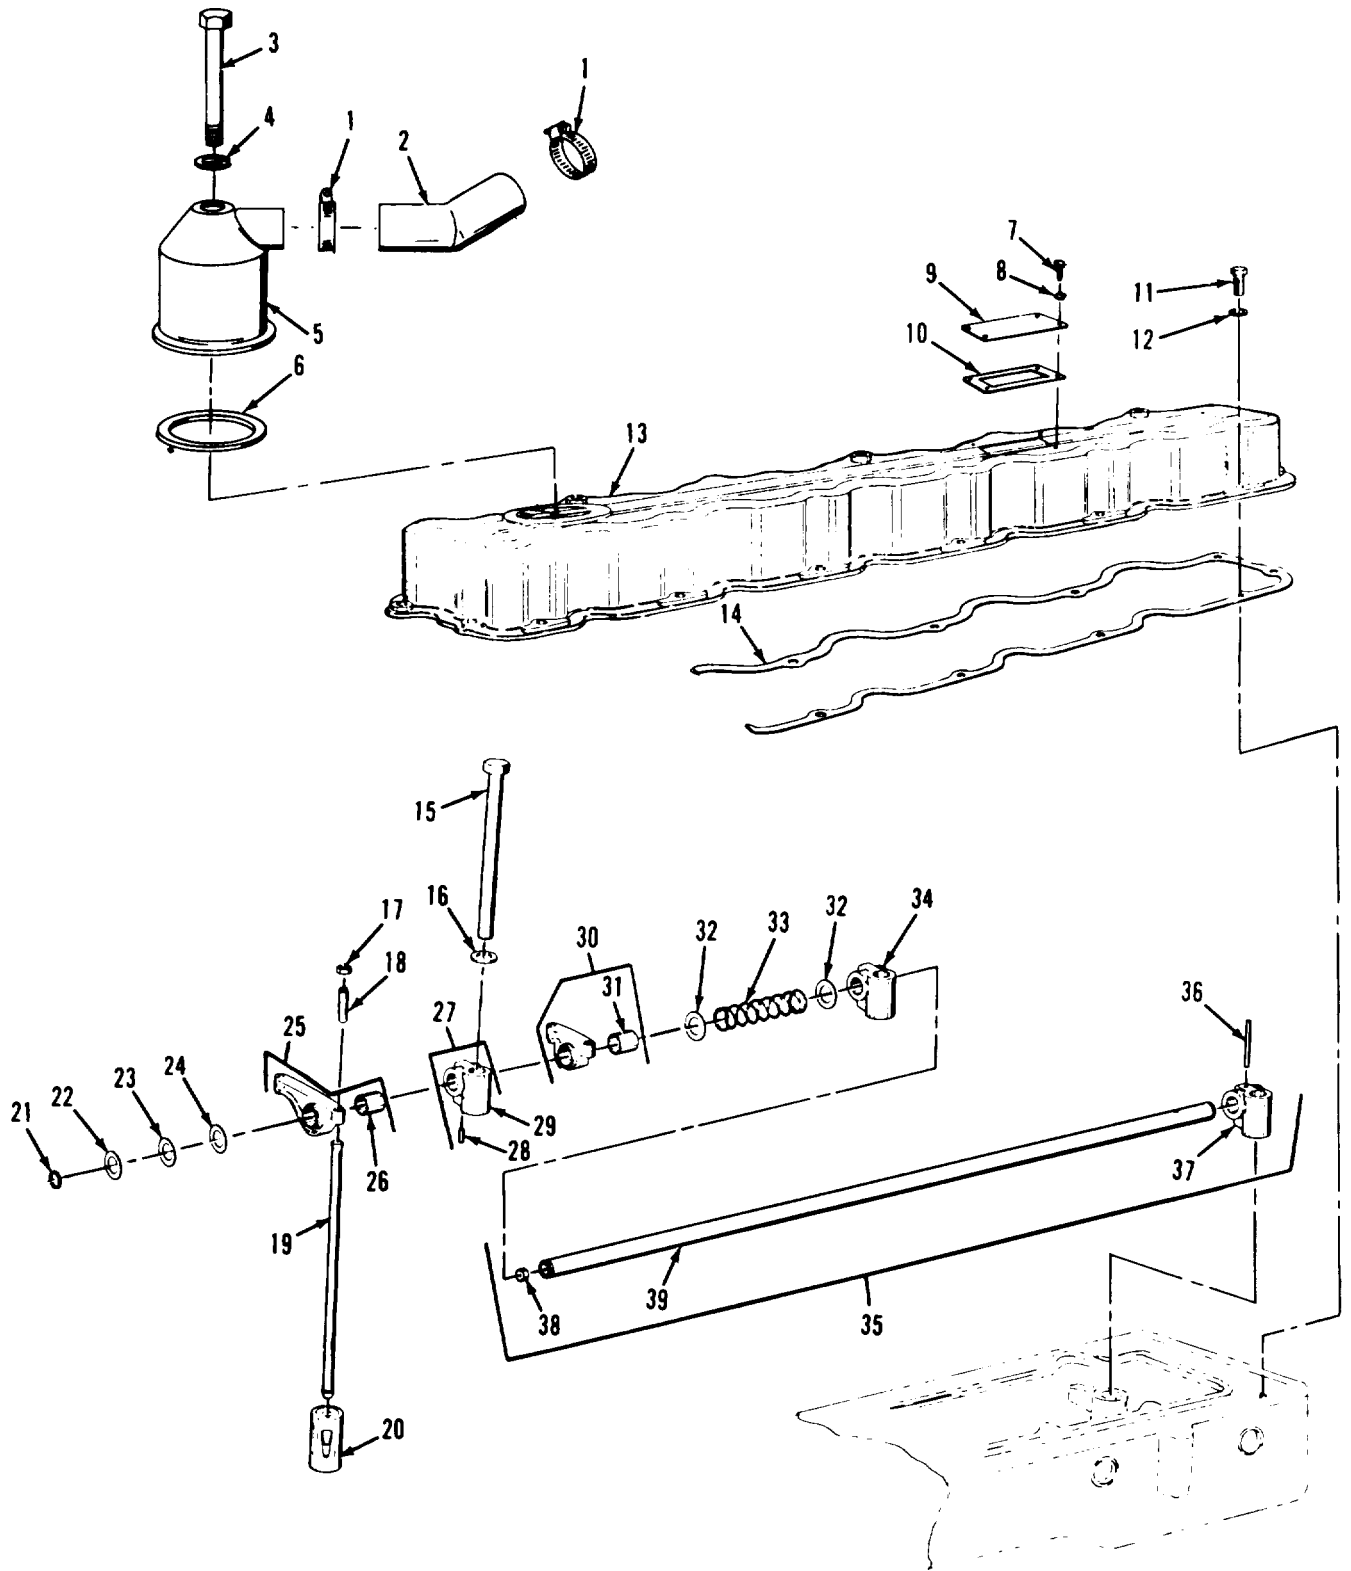

Figure 8-53. Valve cover and valve mechanism group, exploded view
Refer to figure 8-53 and disassemble the valve cover and valve mechanism group in the order of index numbers assigned. Pay particular attention to the following:
Legend to figure 8-53:
1. Rocker arm bearing (26 and 31, figure 8-53) bore.
2. Shaft (39) diameter.
b. Inspect ball end of adjusting screw (18) and valve contact surface of rocker arm assembly (25) for nicks, discoloration, and uneven wear.
c. Inspect rocker arm assembly (30) and shaft (35) to ensure that oil passages are open.
d. Check clearance between lifter (20) and bore in block. Maximum allowable clearance is 0.012 inch. If clearance is exceeded, replace lifter.
e. Inspect push rod (19) for straightness. Rotate push rod on its ball center. Maximum allowable runout is 0.020 inch T.I.R. If limit is exceeded, replace push rod. Do not attempt to straighten push rod.
a. Clean up contact surfaces on adjusting screw (18, figure 8-53) and rocker arm assembly (25), using a hone.
Refer to figure 8-53 and reassemble the valve cover and valve mechanism group in the reverse order of index numbers assigned. Pay particular attention to the following:
a. Using a suitable driver, install bearings (26 and 31, figure 8-53) into arm bores (25 and 30).